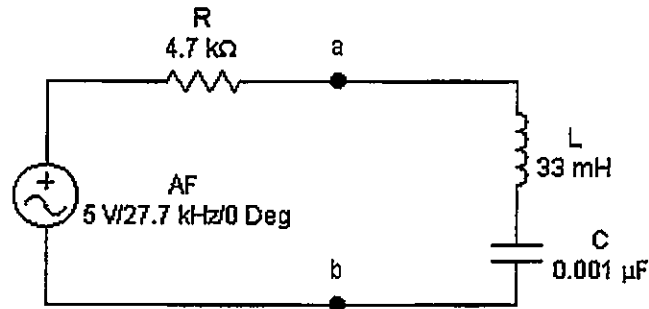

Fig 10.1
- 1- Set up the circuit of Figure 10.1.